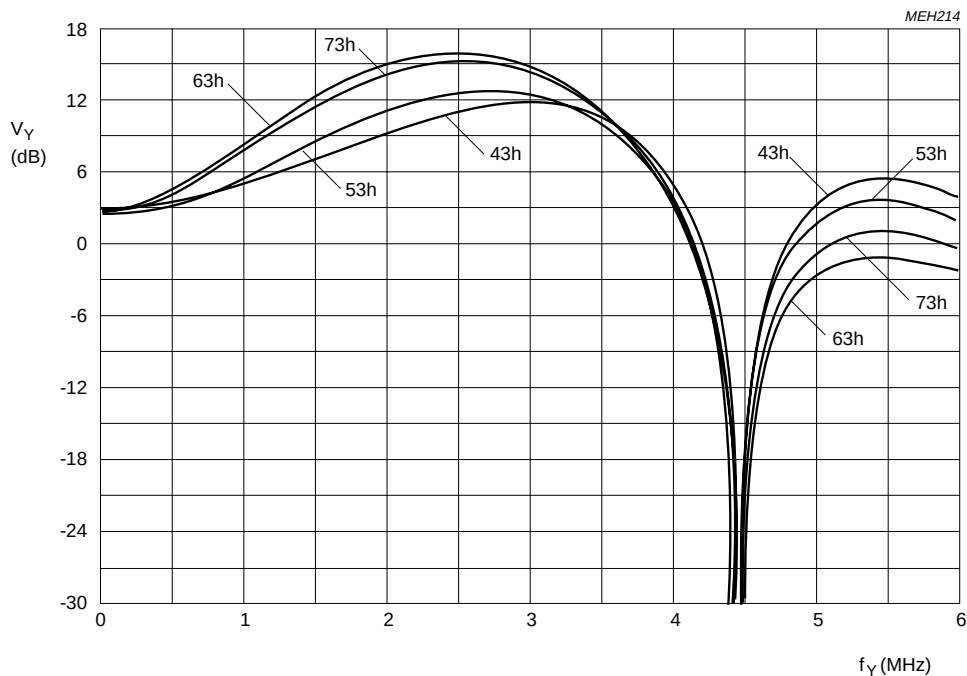

Fig.16 Luminance control in **50 Hz** / CVBS mode controllable by subaddress byte 06; pre-filter on and coring off; maximum aperture bandpass filter characteristic.
Figure 16 to 25
- dependent on application (Figures 16 to 25)